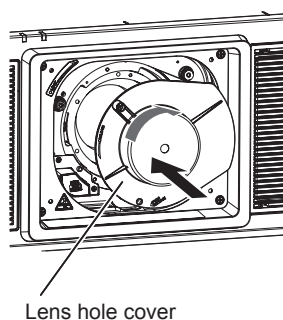

Fig. 2
3) Attach the supplied lens hole cover. (Fig. 2)